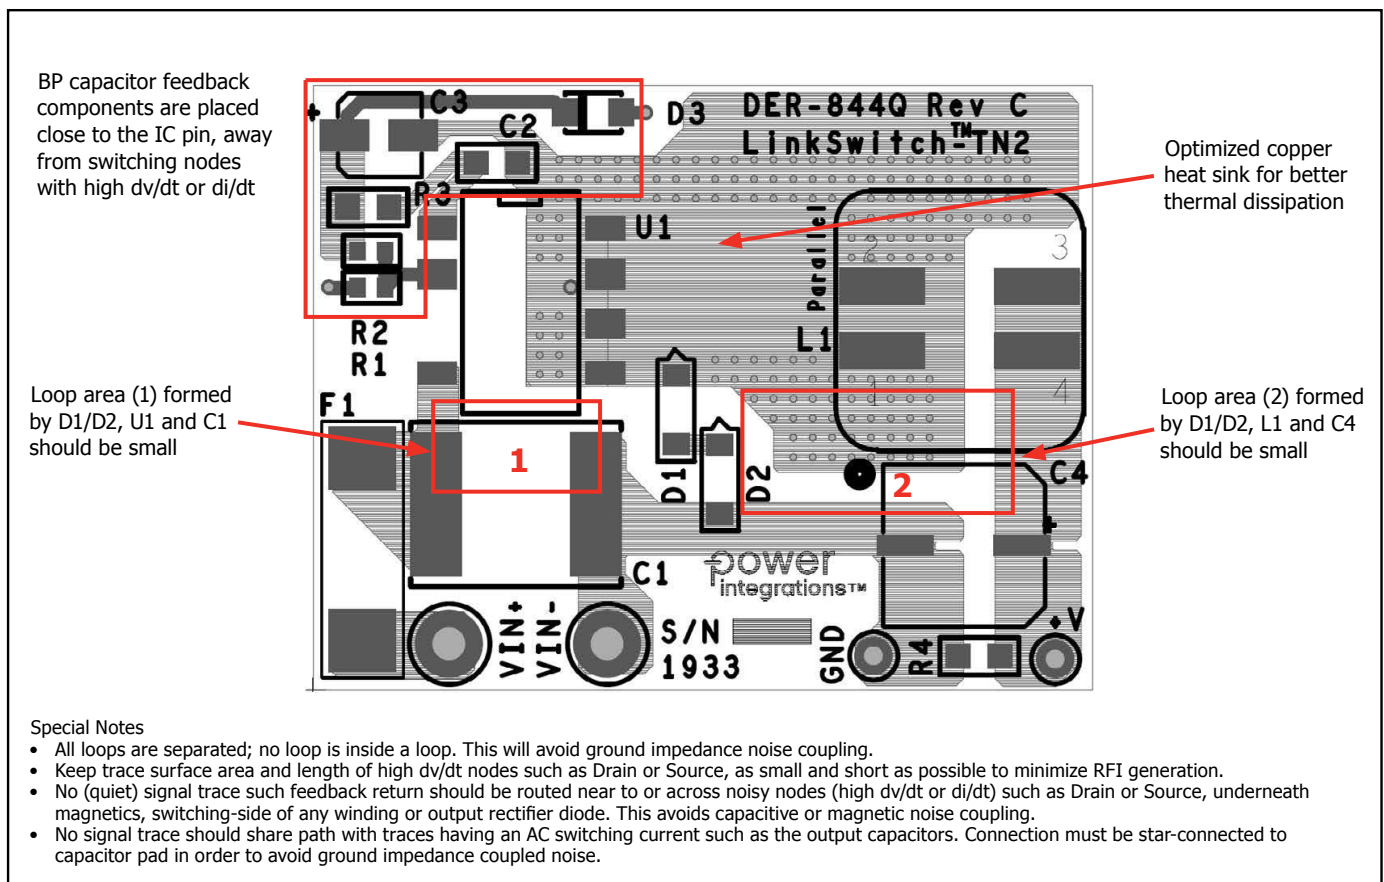

Figure 8. Recommended Printed Circuit Layout for LinkSwitch-TN2 Automotive using G Package.
Figures 8 are printed circuit board layout design examples for the circuit schematic shown in Figure 7. The loop area 1 formed by LinkSwitch-TN2 (U1), free-wheeling diodes (D1, D2), and input bypass capacitor (C1) should be kept as small as possible. The loop area 2 formed by inductor (L1), output filter capacitor (C4) and free-wheeling diodes (D1, D2) should also be kept as small as possible. The BYPASS pin capacitor C2 should be located physically close to the BYPASS (BP) and SOURCE (S) pins. Effective decoupling capacitor C1 placement should be close to the DRAIN (D) pin. For a clean feedback signal, Feedback diode (D3) should be star connected to output cap (C4). Trace from output cap (C4) to Feedback diode (D3) should be spaced out properly away from switching nodes.